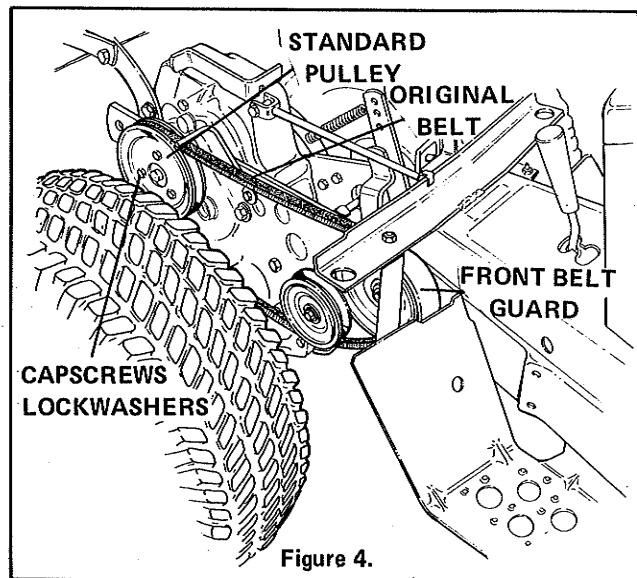

Figure 4.
3. See Figure 4. Loosen front belt guard mounting bolt and shift front belt guard forward.
4. See Figure 4. Remove original belt.
5. See Figure 4. Remove three standard rear pulley cap-screws and lockwashers. Remove standard pulley.